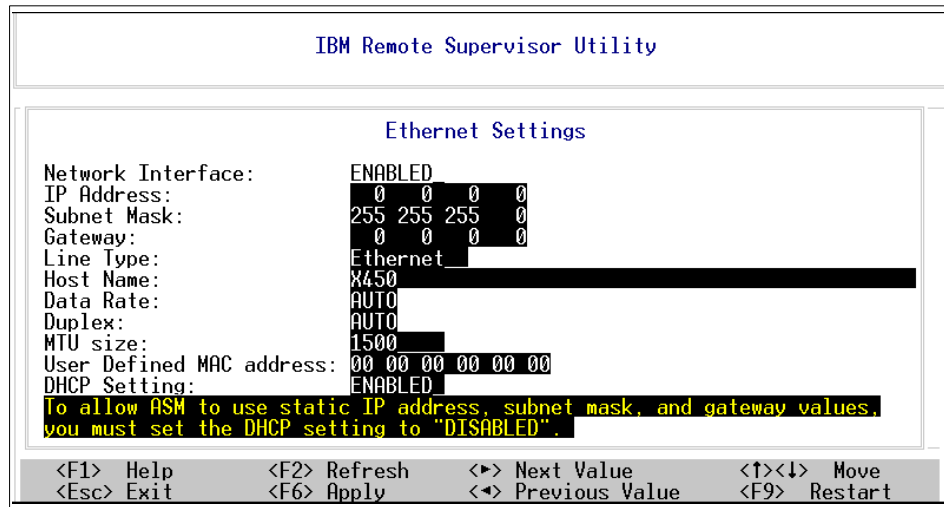

Figure 5-3 RSA Ethernet settings
6. Select **Ethernet Settings**. The Ethernet Settings window opens, as shown in Figure 5-3 on page 123.